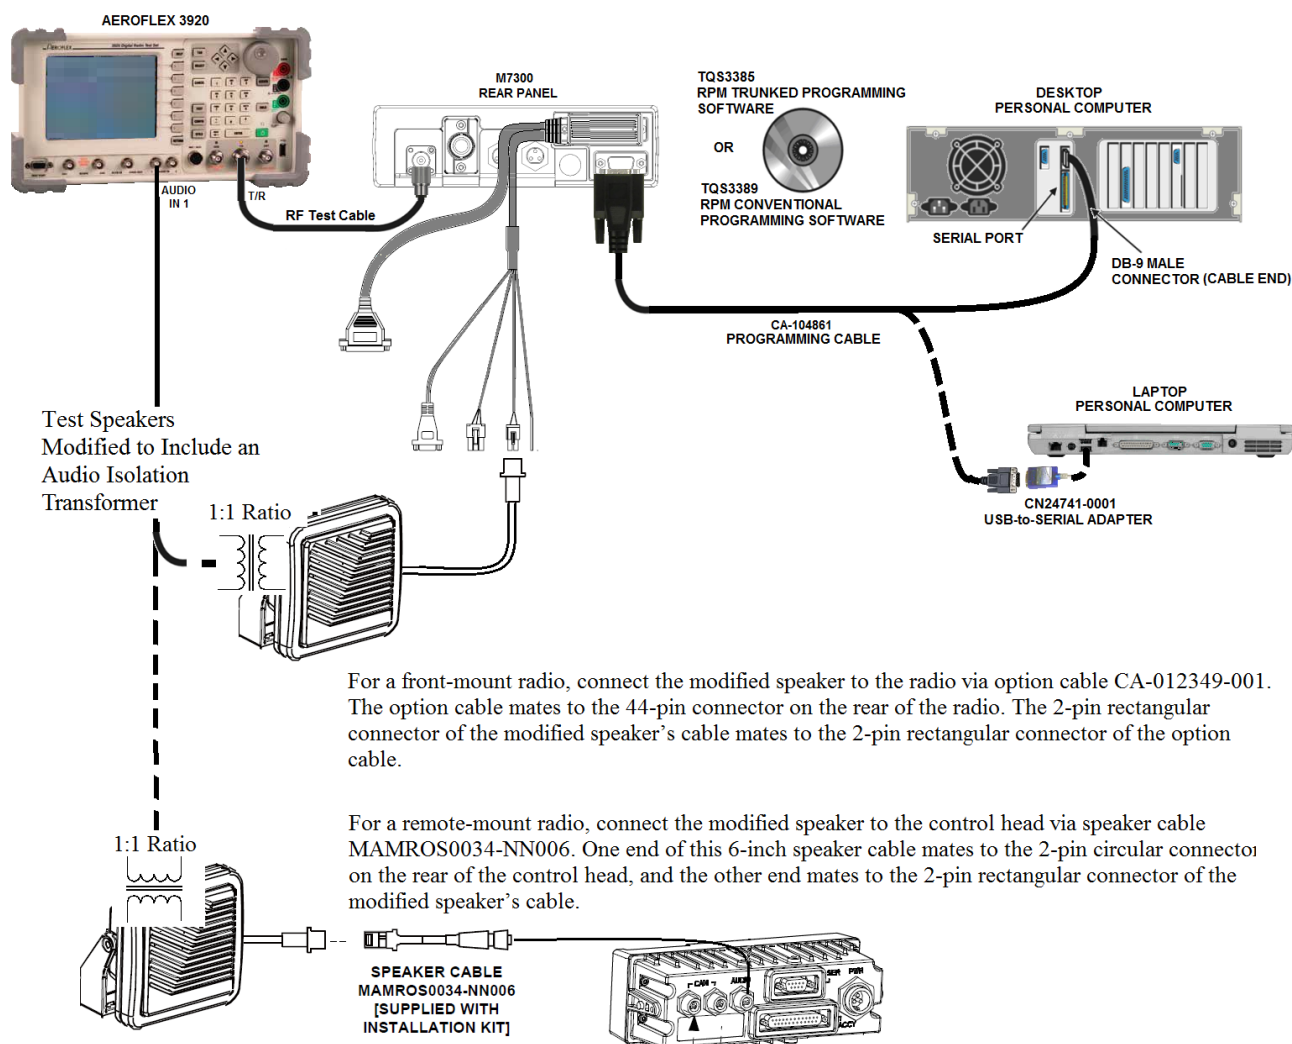

Figure 11-1: Test Equipment Connections for Radio Alignment
1. Setup and power-up the radio, control head, and test equipment as described in the Tx Frequency Test procedure, Section 11.4.4.1 (do steps 1 through 7 of that procedure). Also see Figure 11-1.